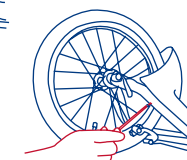

Fig. 7d
- Insert the 4 screws through the underside of the front frame assembly into the front fender's plastic tubes. Tighten the screws only until snug (Fig. 7d). **NO NOT OVER-TIGHTEN.**
- Insert the 4 screws through the underside of the front frame assembly into the front fender's plastic tubes. Tighten the screws only until snug (Fig. 7d). **DO NOT OVER TIGHTEN.**